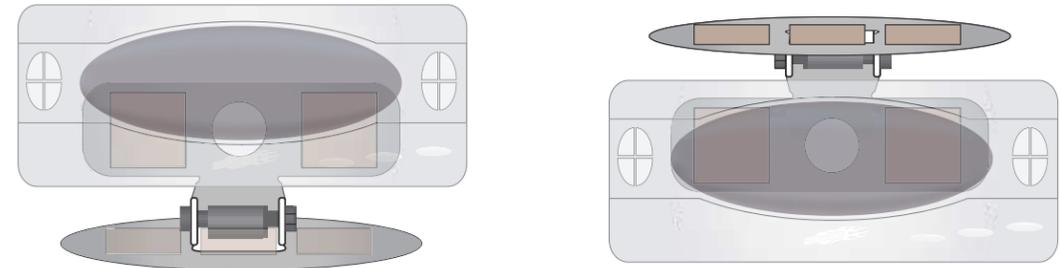

Figure 5
4. Attach the mounting bracket to its mounting location in the same manner. Place three "hook" pieces of the velcro onto the bracket and place three "loop" pieces of the velcro onto the chosen mounting location (Figure 5).